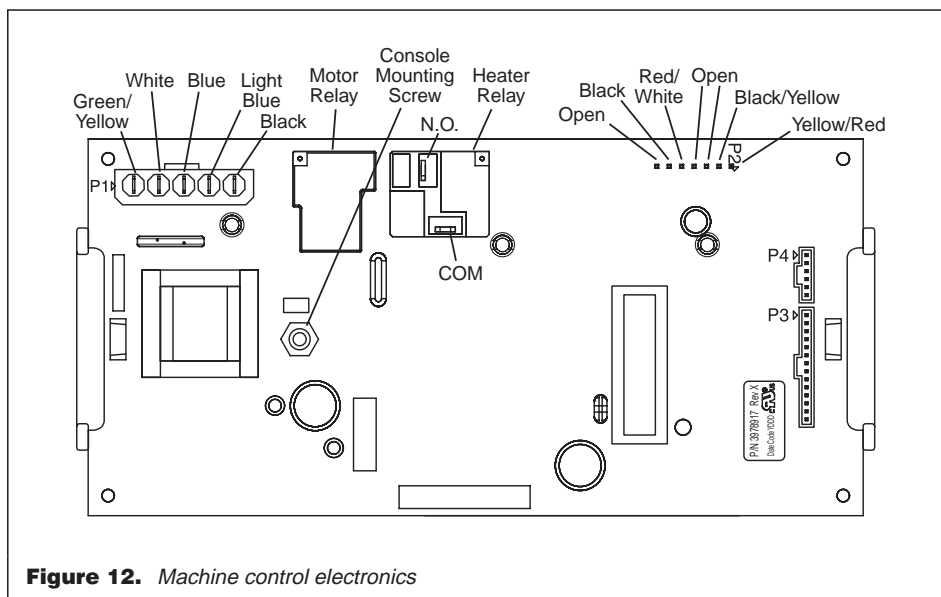

Figure 12. Machine control electronics
- Disconnect the ribbon cables at P3 and P4 on the machine control electronics (see figure 12 on page 7 for connector locations).
Remove all the wire connections to the machine control board. See figure 12, page 7.